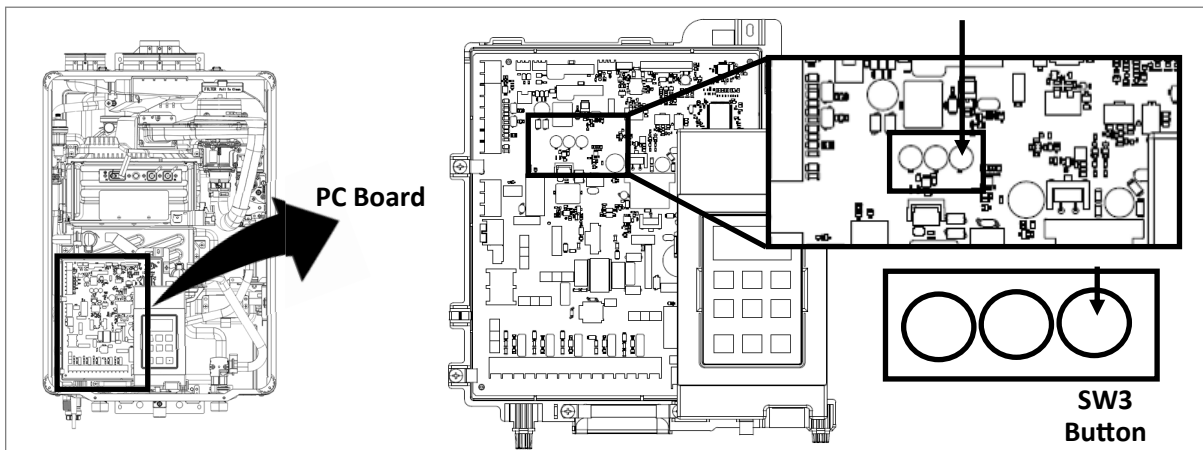
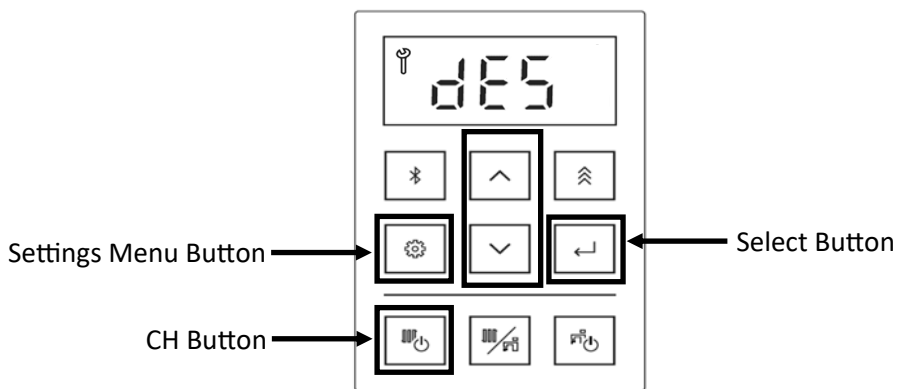

Figure 127
Figure 128
4. Press the SW3 button on the PC Board (Figure 127).
5. Press the up or down arrow button on the controller to select dES (descaling) (Figure 128).
6. Press the Select button to select the dES (Figure 128).
8. Press the Central Heating (CH) button to start the count down (Figure 128).
Note: If you need to cancel this procedure, you may press the Settings Menu button on the controller (Figure 128), or press the SW3 button on the PC Board (Figure 127).